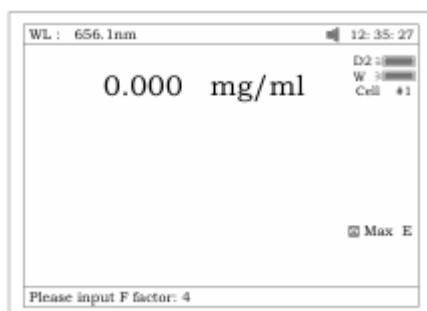

Fig.23
- 4.1 Press **【F3】** to input known F value, Fig 23. Then push the sample into the MainLight Path to take a reading of the concentration.